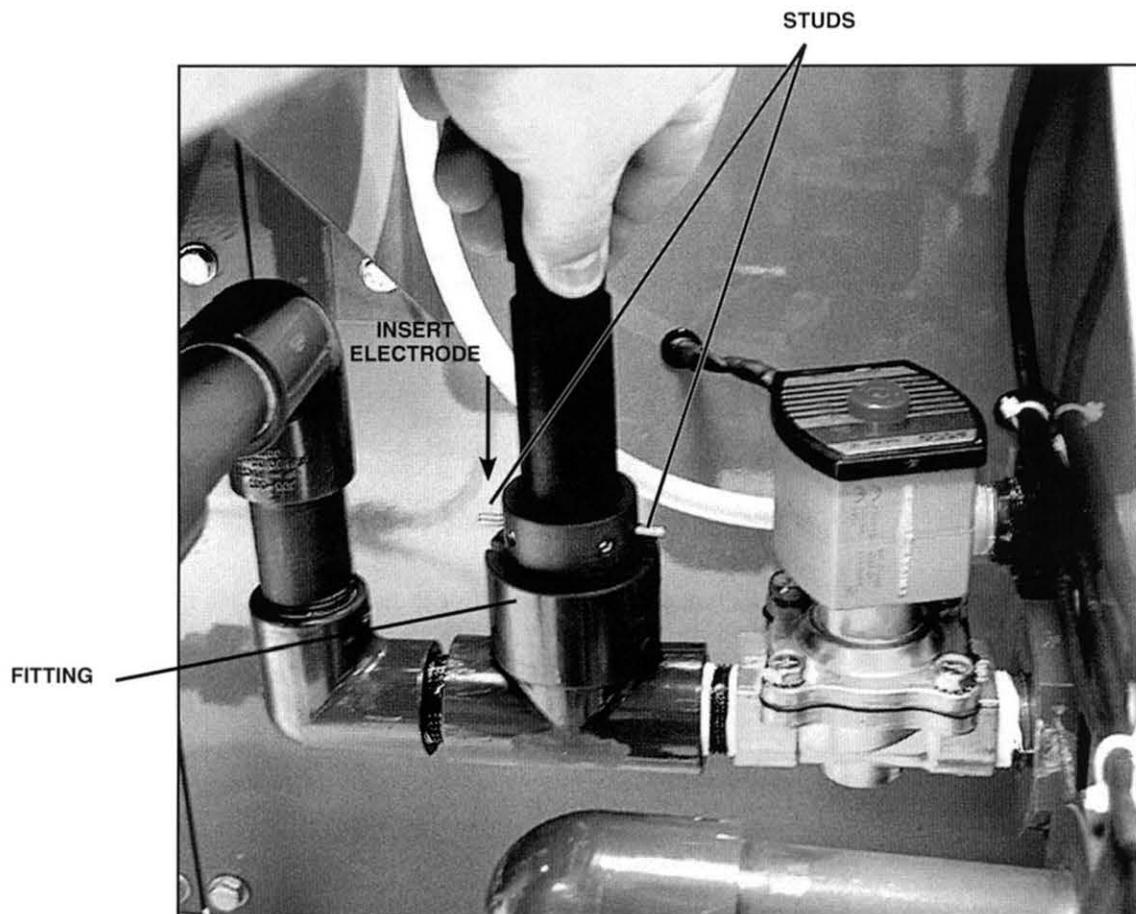

Figure 38. Insert Electrode Housing into Fitting
- 4. Insert the electrode housing into the open fitting on the inlet side of the reactor tank (LOCATION 1), as shown in figure 38. Make sure the studs on the housing fit into the slots in the fitting and push the electrode housing down until it is fully seated in the fitting.